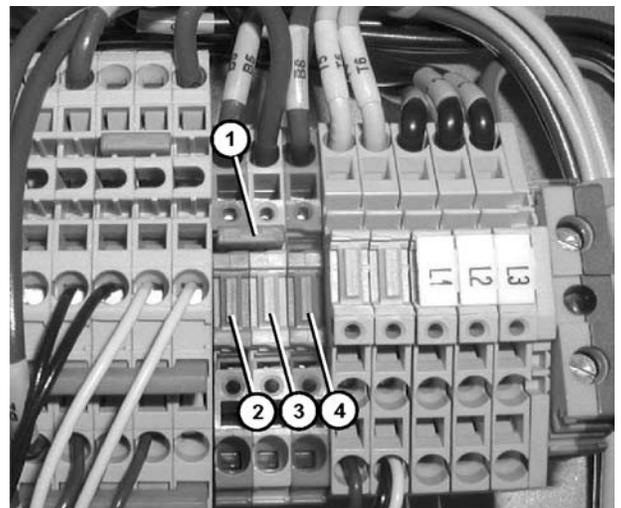

Figure 59
For forward belt movement, install the orange jumper (**Figure 59, item 1**) between the blue terminal (**Figure 59, item 2**) and white terminal (**Figure 59, item 3**), the left two terminals. For reverse belt movement, install the orange jumper between the orange terminal (**Figure 59, item 4**) and the white terminal (**Figure 59, item 3**), the right two terminals. (This jumper is removed when direction is controlled from the remote machine interface terminals.)